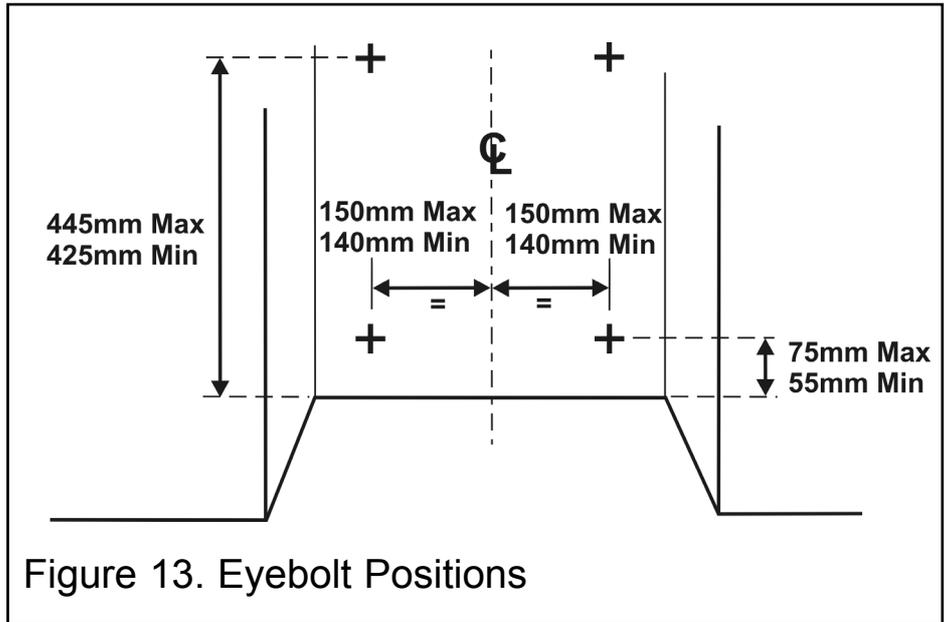

Figure 13. Eyebolt Positions
2. Drill four holes in the rear wall of the fireplace for the eyebolt plugs. The holes should be drilled within the range of positions shown in figure 13 using a no.12 masonry drill. The holes should be equidistant each side of the centre line of the fireplace to ensure that the appliance finishes centrally in the opening when tension is applied to the cables.